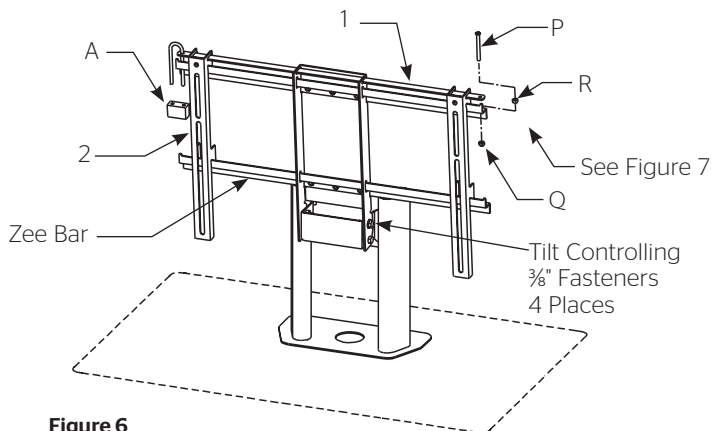

Figure 6
- Slide the Security Bar through the slots in the Hanging Brackets and Mount, bolt one end to the Zee Bar and then secure the opposite end with the padlock. See Figures 6 and 7.